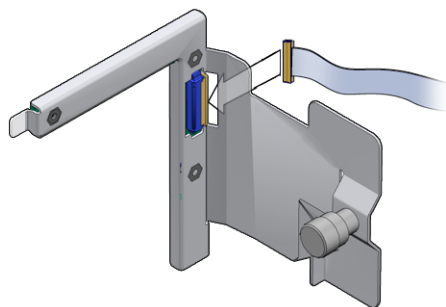

FIGURE 5-25 Connecting Cable to the LED Board
2. Connect the cable to the LED board (FIGURE 5-25).